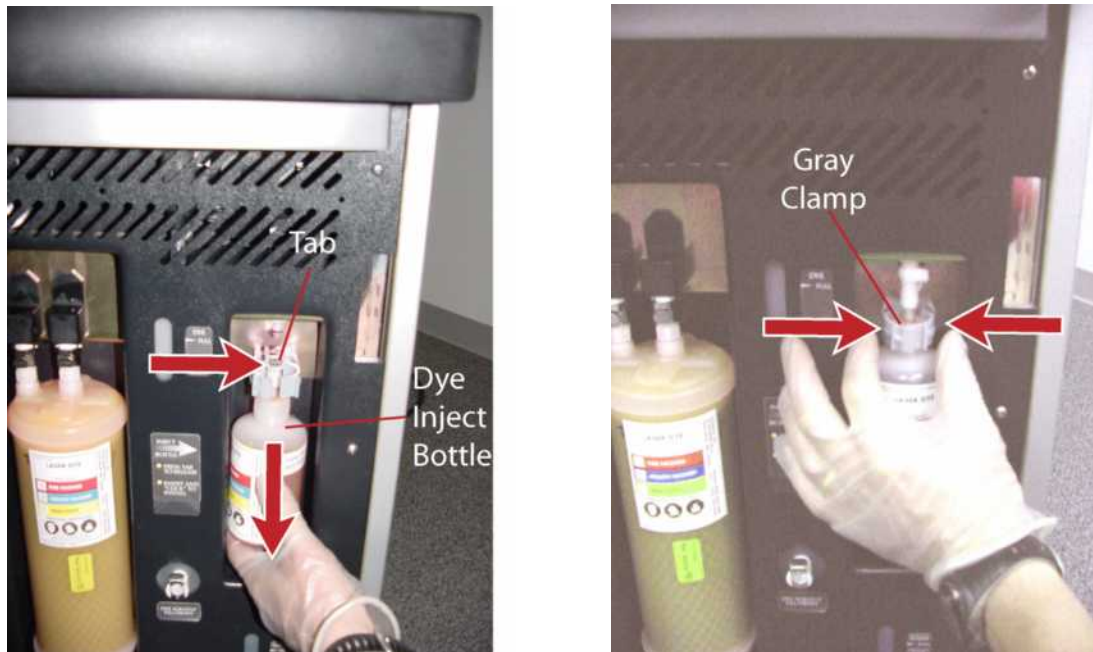

Figure 6B–Detaching/Inserting Dye Inject Bottle
6. Remove the dye inject bottle by squeezing the tab of the quick-disconnect, and then pulling the bottle down and away from the fitting. See left side of **Figure 6B**.
8. Reverse steps 6-7 to install a new dye filter bottle. Once the fluid connections are made, squeeze the gray clamp to fasten. See right side of **Figure 6B**.